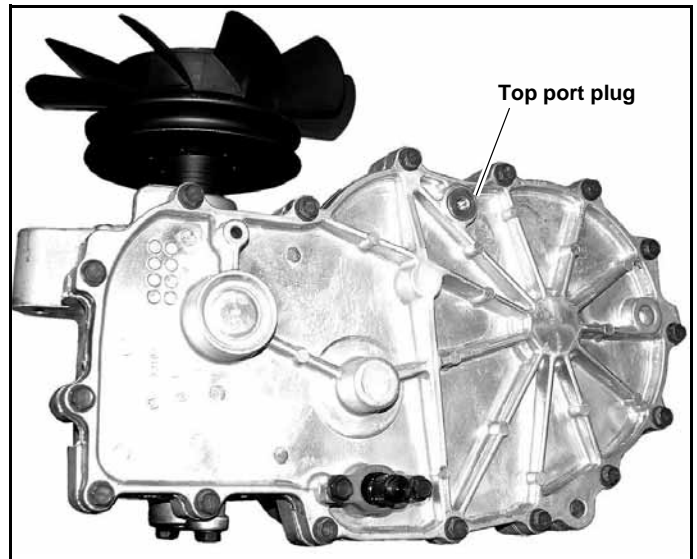

Figure 4-10
9. **IMPORTANT:** Remove the top port plug from both transaxles prior to filling with oil. This will allow the transaxles to vent during oil fill. Figure 4-10
11. Fill with 20W50 motor oil until oil just appears at the bottom of each transaxle top port (approximately 2 qts. per transaxle). Install the top port plug into each transaxle as the oil level reaches this port. Torque plugs to 180 in. lbs. Clean up any oil that leaked from the ports. Figure 4-10